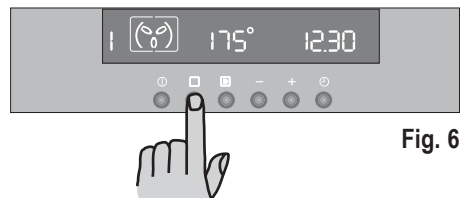

Fig. 6
2) Press button **□** to select the required oven function. Each time button **□** is pressed, a cooking symbol will appear in the display and the corresponding cooking function number will appear to the left of the currently selected cooking function symbol (Fig. 6).